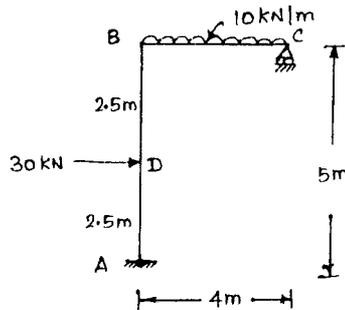

Fig. 2
- (b) Using the method of virtual work, determine the horizontal displacement of a point C of the frame shown in Fig. 2. Take $E = 2 \times 10^5 \text{ N/mm}^2$